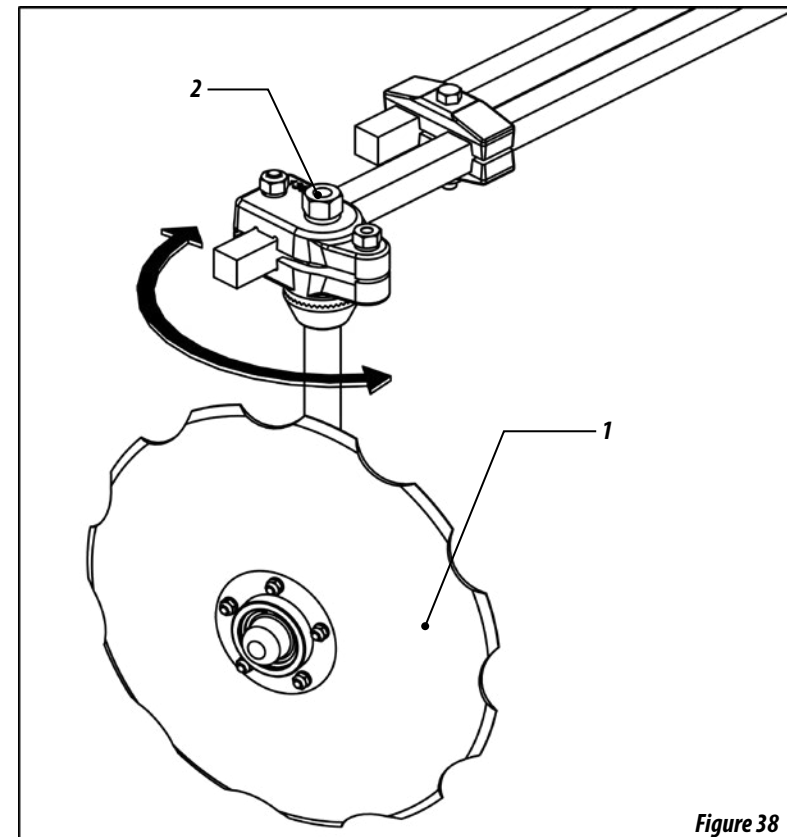

Figure 38
- 9- The line marker disc (1) has angle adjustment to facilitate the work of ground markings. For this adjustment, loosen the nut (2) and rotate the disc to the desired position. Figure 38.